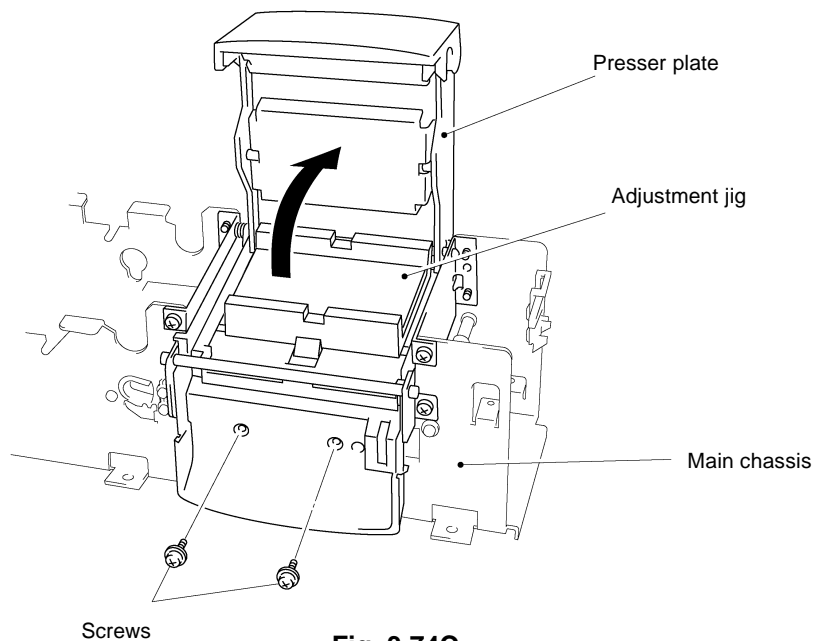

Fig. 3.74C
(9) Remove the presser jig assy.
(10) Open the presser plate, then tighten two screws, as shown in Fig. 3.74C.